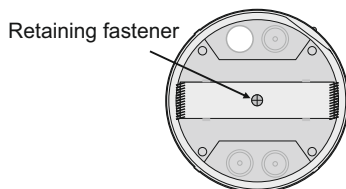

Figure 4
Step 2. Unfasten the retaining screw (Figure 4) and detach the part for suspended ceiling installation.